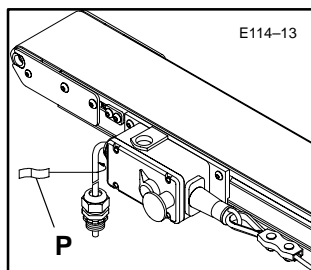

Figure 13: Cable Labeling (Detail provided only on Pull Cord E-Stop End of Cable)
7. Label both ends of the E-Stop Cable with the blank Labels (L) provided (Figure 13), using a permanent marking pen.